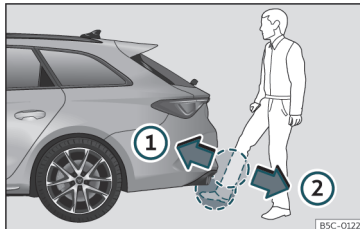

Fig. 84 Rear lid with sensor-controlled opening (Easy Open).
- With a brisk movement, bring your foot and lower leg as close as you can to the bumper. The lower part of the leg needs to be close to the upper sensor area and your foot must be close to the lower sensor area **>>> Fig. 84 ①**.
- Quickly remove your foot and lower leg from the sensor areas **>>> Fig. 84 ②**. The rear lid will open automatically.